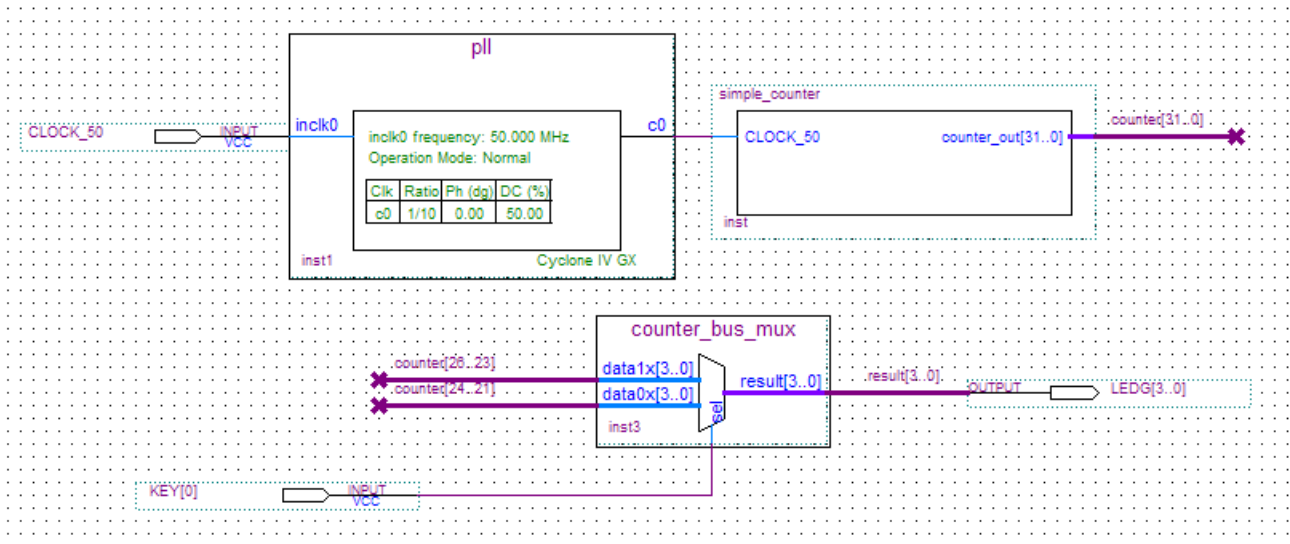

Figure 3-29 Adding the KEY [0] Input Pin
22. Rename the input pin as KEY [0] (see **Figure 3-29**).